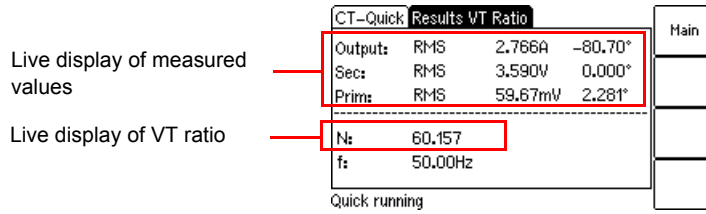

Figure 10-14: **Results** test card for VT ratio measurement
4. Start the measurement by pressing the  key on *CT Analyzer* or clicking the **ON** button on the **VT Ratio** tab of the *CT Analyzer Quick Test* software tool. The measured values are displayed and permanently updated as long as the measurement is active. Refer to Figure 10-14.